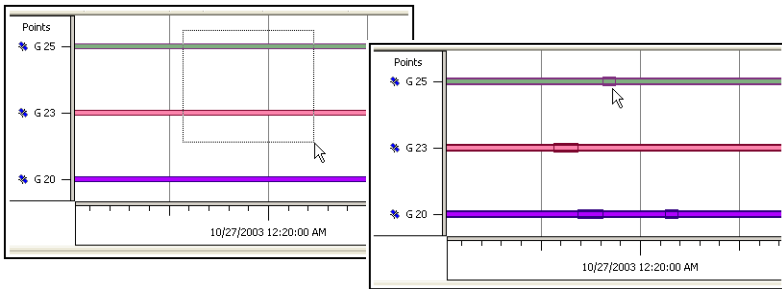

Figure 6-6. Selecting Epochs
2. Either drag a square around an epoch or click a satellite’s epoch (Figure 6-6 on page 6-8) to select the desired epoch(s) and time interval(s).